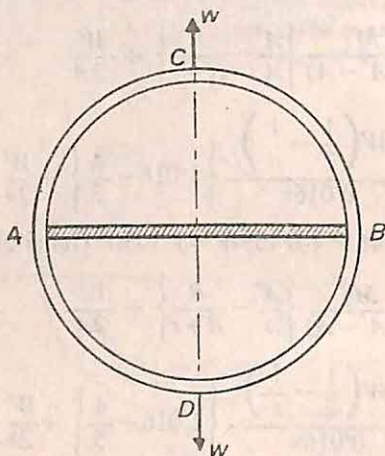

Fig. 36
14. Fig. 36 shows a circular ring of mean radius  $R$ , made of material having a uniform section. The ring is fitted with a rigid bar across the diameter  $AB$  and transmits a pull  $W$  along the diameter  $CD$  which is at right angles to  $AB$ . Obtain the force in the bar in terms of  $W$ , and the change in the diameter  $CD$  in terms of  $W$  and the flexural rigidity  $EI$  of the ring. (Lond. Univ.)